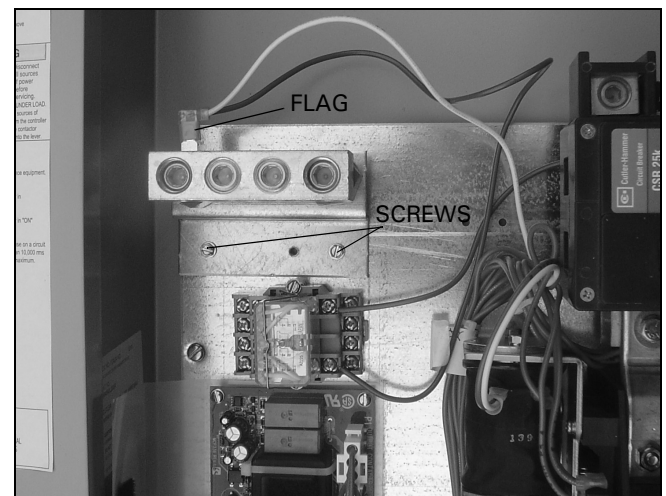

Figure 37. Replacing the 200 A Neutral Bar.
- Step 3:** Disconnect the flag from the wire terminal on the back of the neutral bar (see Figure 37).
- Step 5:** Remove the two (2) screws securing the neutral bar bracket to the base plate (see Figure 37) using a blade screwdriver or 0.25 in. socket or nut driver. Remove the neutral bar.